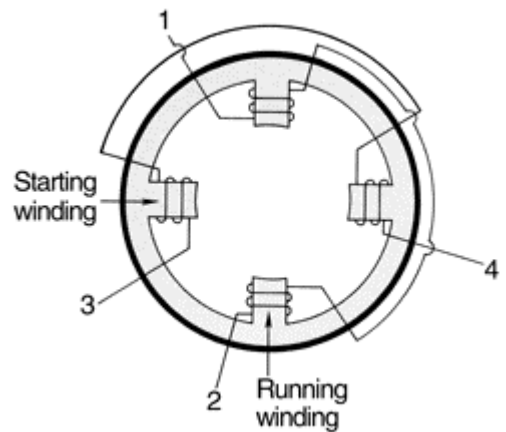
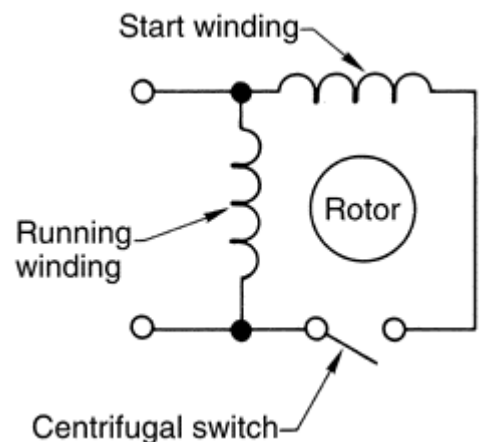

Figure 6 - Split-phase windings in a twopole motor. Starting winding and running winding are 90 ° apart.
Figure 7 - Split-phase start induction motor.
- *Split phase motors*, Figure 6, use both a starting and running winding. The starting winding is displaced 90 electrical degrees from the running winding. The running winding has many turns of large diameter wire wound in the bottom of the stator slots to get high reactance. Therefore, the current in the starting winding leads the current in the running winding, causing a rotating field. During startup, both windings are connected to the line, Figure 7. As the motor comes up to speed (at about 25% of full-load speed), a centrifugal switch actuated by the rotor, or an electronic switch, disconnects the starting winding. Split phase motors are considered low or moderate starting torque motors and are limited to about 1/3 hp.